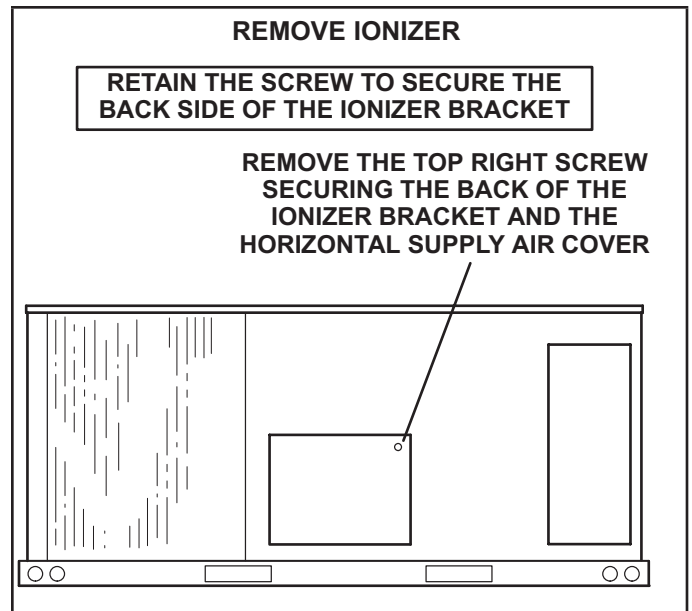

FIGURE 31
- 1 - On the back side of the unit, remove the screw securing the back of the ionizer bracket. See FIGURE 31. Retain the screw to secure the back side of the ionizer bracket.